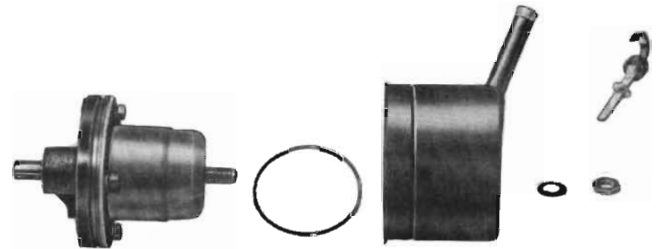

Fig. 3 - Pump reservoir removed
(1) Remove the oil pump as described in *Paragraph 2* and drain reservoir.
(2) Clean off the pump exterior being careful to prevent any foreign matter entering the pump.
(3) Remove the reservoir retaining nut and seal washer from the output union.
(4) Mark the position of the reservoir relative to the housing then remove the reservoir from the body, refer to *Fig. 3*.
(5) The seal ring may now be lifted from the groove.